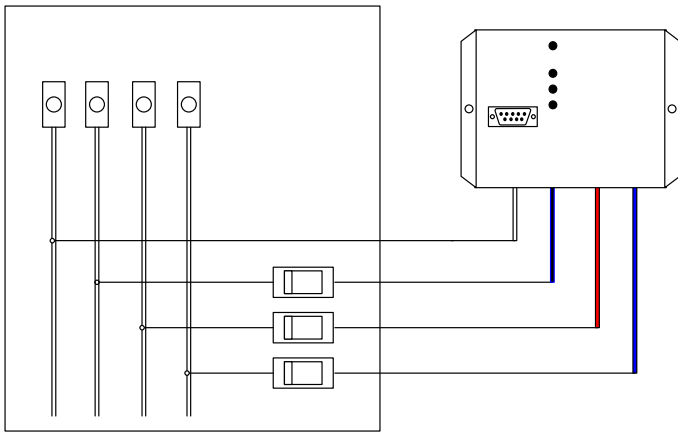

Figure 2: Wiring Diagram
1. Refer to Figure 1 and Figure 2 to determine the wire colors of the hook-up.
2. Connect the UTR 3-Phase Repeater to the following electrical wires (see Figure 2 for reference):